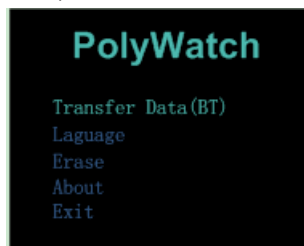

Figure 2-8 “Tools” interface
- ② Press the **On-Off / OK** Button ①/☑ to enter the “Tools” interface (Figure 2-8).